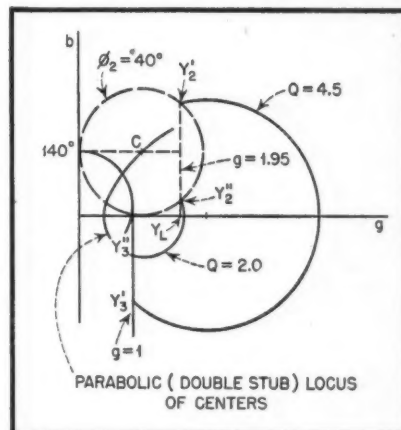

Fig. 7. Graphic solution of double stub matching problem 2, in which two possible solutions are shown.
**Example 2.** Given an admittance  $Y_L = 1.95 + j0$  with stub  $S_1$  located at the load ( $\phi_s = 0$ ) and stub  $S_2$  at a distance of  $40^\circ$ , to find the required stub lengths. On chart 1 the center,  $c$ , of the  $\phi_s = 40^\circ$  circle is found by drawing a horizontal line to the double stub locus curve from the  $(180^\circ - 40^\circ)$  or  $140^\circ$  point on the  $b$  axis as shown in Fig. 7. The circular locus of  $\phi_s$  is drawn in,